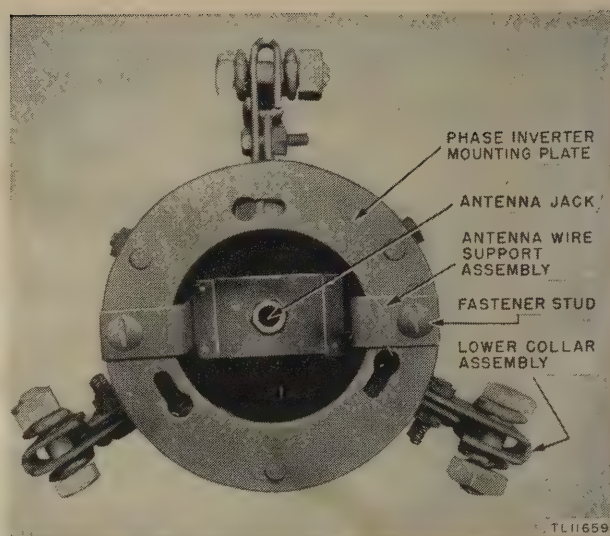

Figure 64. Antenna mast, base detail.
- (14) Tighten the movable collar by turning its Allen screw clockwise.
- (15) Similarly align the top and center sections and clamp them firmly together. Put the antenna mast cap on the top section.
- (16) Position the antenna wire support assembly as shown in figure 64. Fasten the assembly to the phase inverter mounting base by turning the fastener studs a half turn.
- (1) Insert the phase inverter banana plug into the antenna jack in the antenna base (fig. 64).
- (2) Push the phase inverter upward and insert the phase inverter studs into